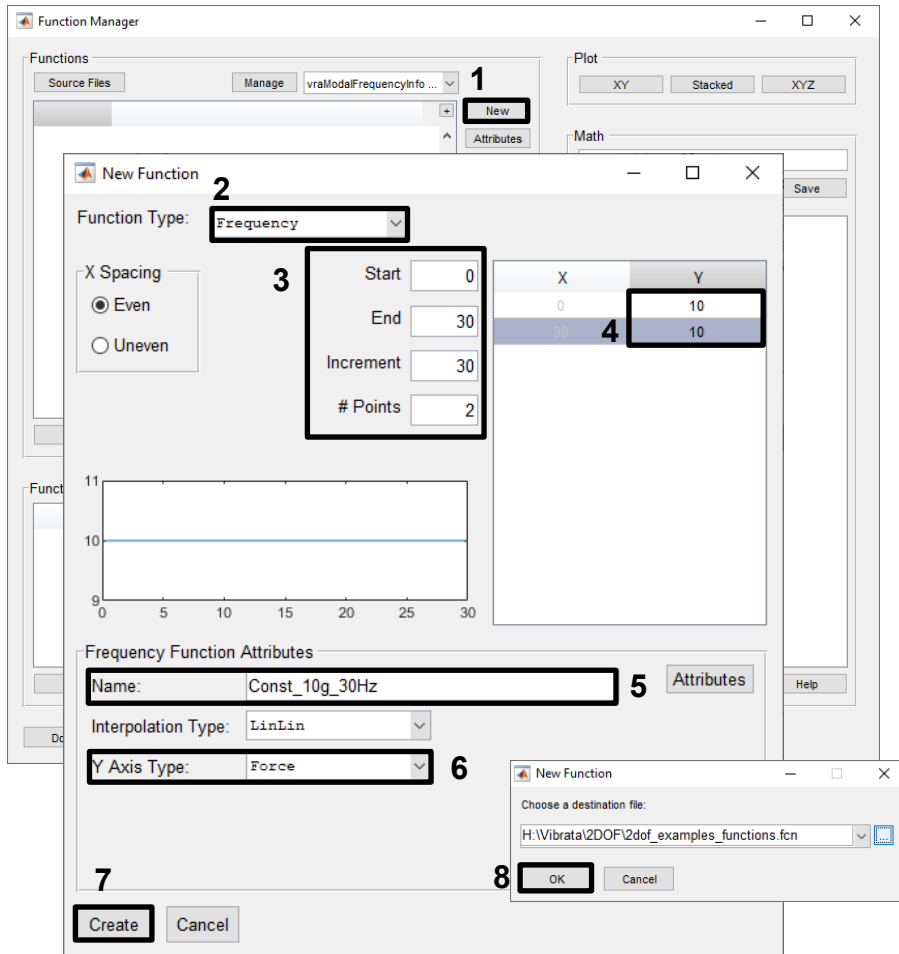

Figure 4-21. Create a new function with a constant 10 lbf amplitude from 0 to 30 Hz.
- c. Create a new frequency function from 0 to 30 Hz with an amplitude of 10. Make sure the Y Axis Type is Force, and give the function a name that you will be able to recognize later (Figure 4-21).